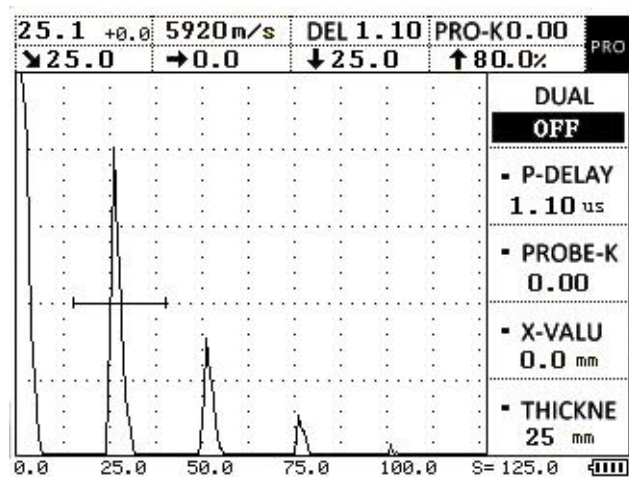

Figure 4-3
4. Set Gate A to lock the first echo. Press **AUTO GAIN** to make the highest echo reach 80% of the screen. The sound path value is displayed on the screen. If the vertical sound path is not 25mm, press **PROBE**, then press **▲** (up) or **▼** (down) to select the probe zero submenu. Then press **◀** (left) or **▶** (right) to adjust the value till the sound path value reaches 25mm. At this point, the probe zero is calibrated, as shown in Figure 4-3.